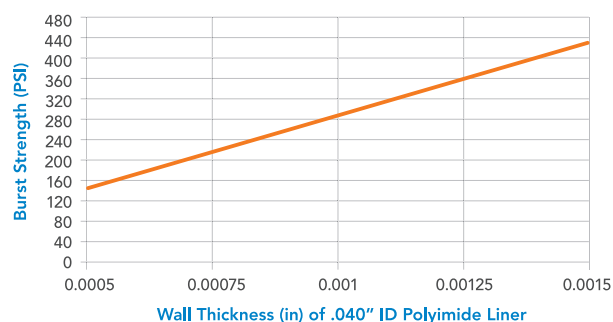

FIGURE 2. INTERNAL BURST STRENGTH AS A FUNCTION OF POLYIMIDE WALL THICKNESS:
- Polyimide acts as the structural "backbone" and a pinhole-free liner that will contain the fluid pressure when the balloon is inflated. (See Figure 2.) The polyimide—along with the wire braiding—also helps to provide push and transmit torque.